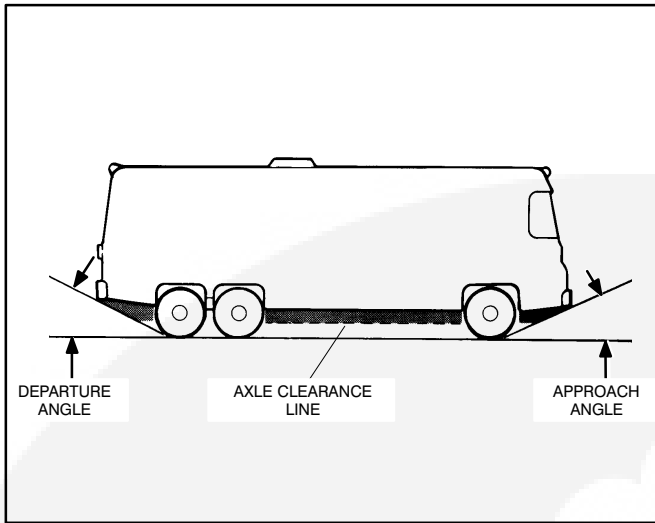

FIGURE 7. VEHICLE CLEARANCES
- A. **Below-Floor Mounting** – Use one of the mounting kits available from Onan (Page 35, 36 or 37). Follow the instructions in the kit and use Underfloor Template 539-1535 to locate the assembly. A plywood or particle board floor must be reinforced with steel to resist the dynamic weight of the genset (Item 1). Do not mount the genset within the approach or departure angles of the vehicle or below the axle line (Figure 7). If the floor is of combustible material such as wood, install a barrier of 26 gauge galvanized steel or equivalent between the floor and the genset.
7. To keep the tailpipe from being damaged, do not route it such that it protrudes into the approach or departure angles of the vehicle or below the axle clearance line (Figure 7).